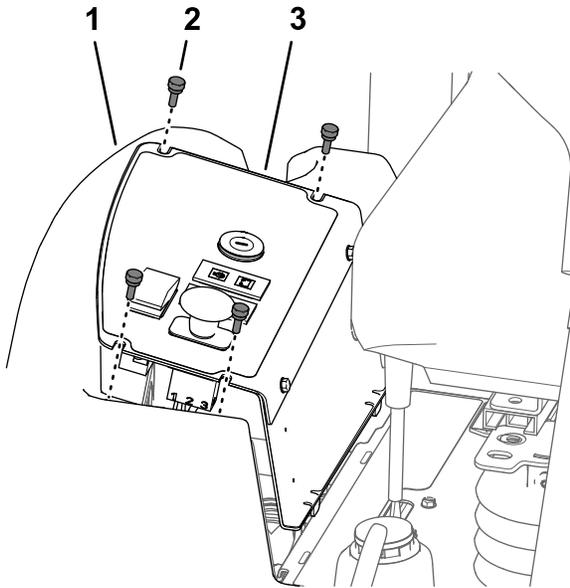

Figure 54
1. Remove the 4 thumb screws that secure the control-panel plate to the fuel tank (Figure 54).
2. Lift up the control-panel plate (Figure 54).
3. Align the slots in the top of the control-panel plate with the holes in the flange of the fuel tank (Figure 54).
4. Assemble the control panel plate to the flange of the fuel tank with the 4 thumb screws (Figure 54) the you removed in step 1 of Removing the Control-Panel Plate (page 49).